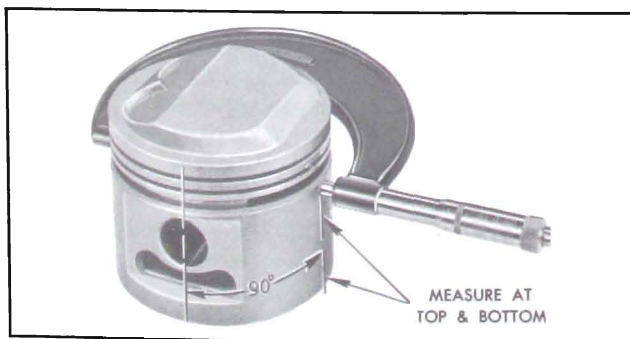

Figure 2-34—Measuring Piston with Micrometer
The pistons are cam ground, which means that the diameter at a right angle to piston pin is greater than the diameter parallel to piston pin. When a piston is checked for size it must be measured with a micrometer applied to skirt at points exactly 90 degrees to piston pin. See Figure 2-34. Measurements should be made at top and bottom ends of skirt; the diameter at top end will normally be very slightly less than at bottom end after a piston has been in service in an engine.
3. Measure the piston to be installed. See Figure 2-34. The piston must be measured